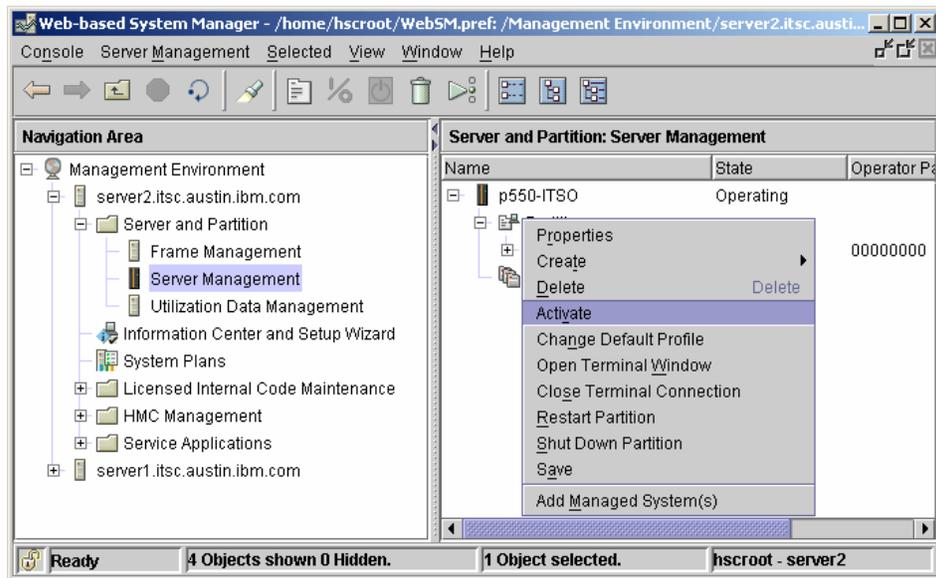

Figure 3-22 Activate `VIO_Server1` partition
2. Activate the `VIO_Server1` partition by right-clicking the partition name and selecting the **Activate** button, as shown in Figure 3-22. Select the default profile you used to create this partition.